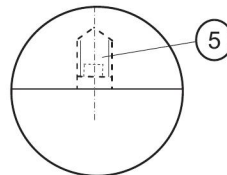

Abb.4
⑤. Screw the threaded pin M4 as far as the stop (fig.4)
⑥. Mount the cover if necessary.